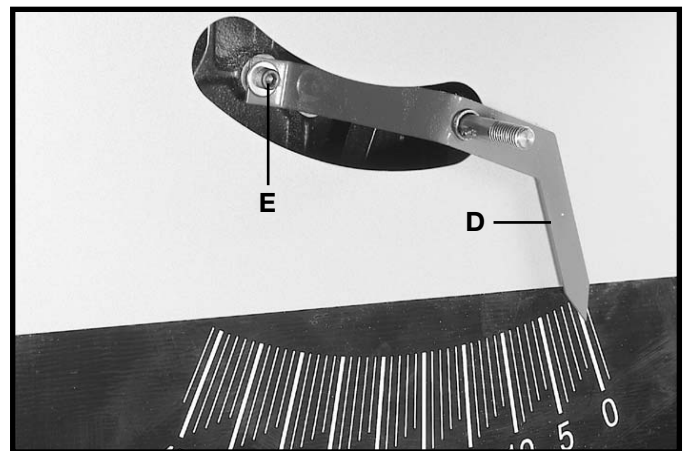

Fig. 100
6. Adjust the pointer (D) Fig. 100, to point to the zero degree mark on the scale by loosening screw (E), adjusting pointer (D), and tightening screw (E).